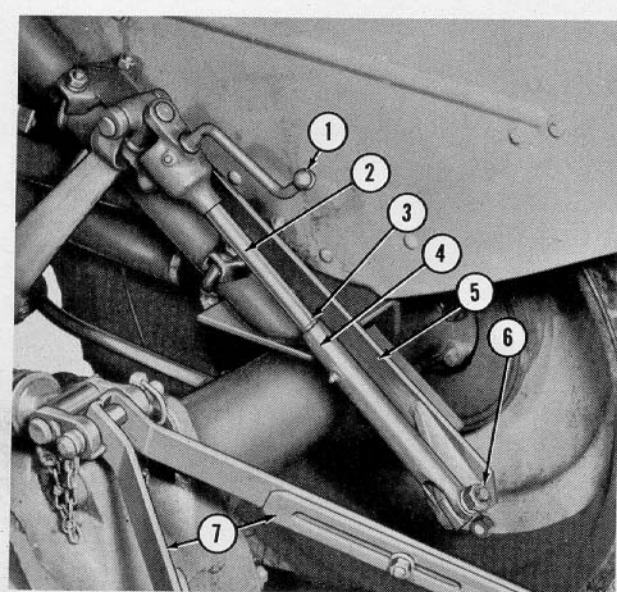

Figure 10
14. Attach the leveling arm support bracket (5), Figure 10, to the main frame with the two U-bolts as shown. Be sure the bracket is as far on the main frame as it will go.
15. Attach the stay braces (7) and drawbar in the usual manner.
16. Remove the right-hand and left-hand hydraulic lift rods from the lower lift links and bolt the right-hand rod to the support bracket as shown at (6), with the $\frac{5}{8}$ x $2\frac{1}{4}$ inch machine bolt, lock washer and nut provided. Leave the left-hand lift rod free and reattach the anchor chains to the lift links.
- a. Turn the leveling crank (1), Figure 10, until the top of the hydraulic lift rod rod fork (4) is even with locating ring on the lift rod (2) as shown at (3).